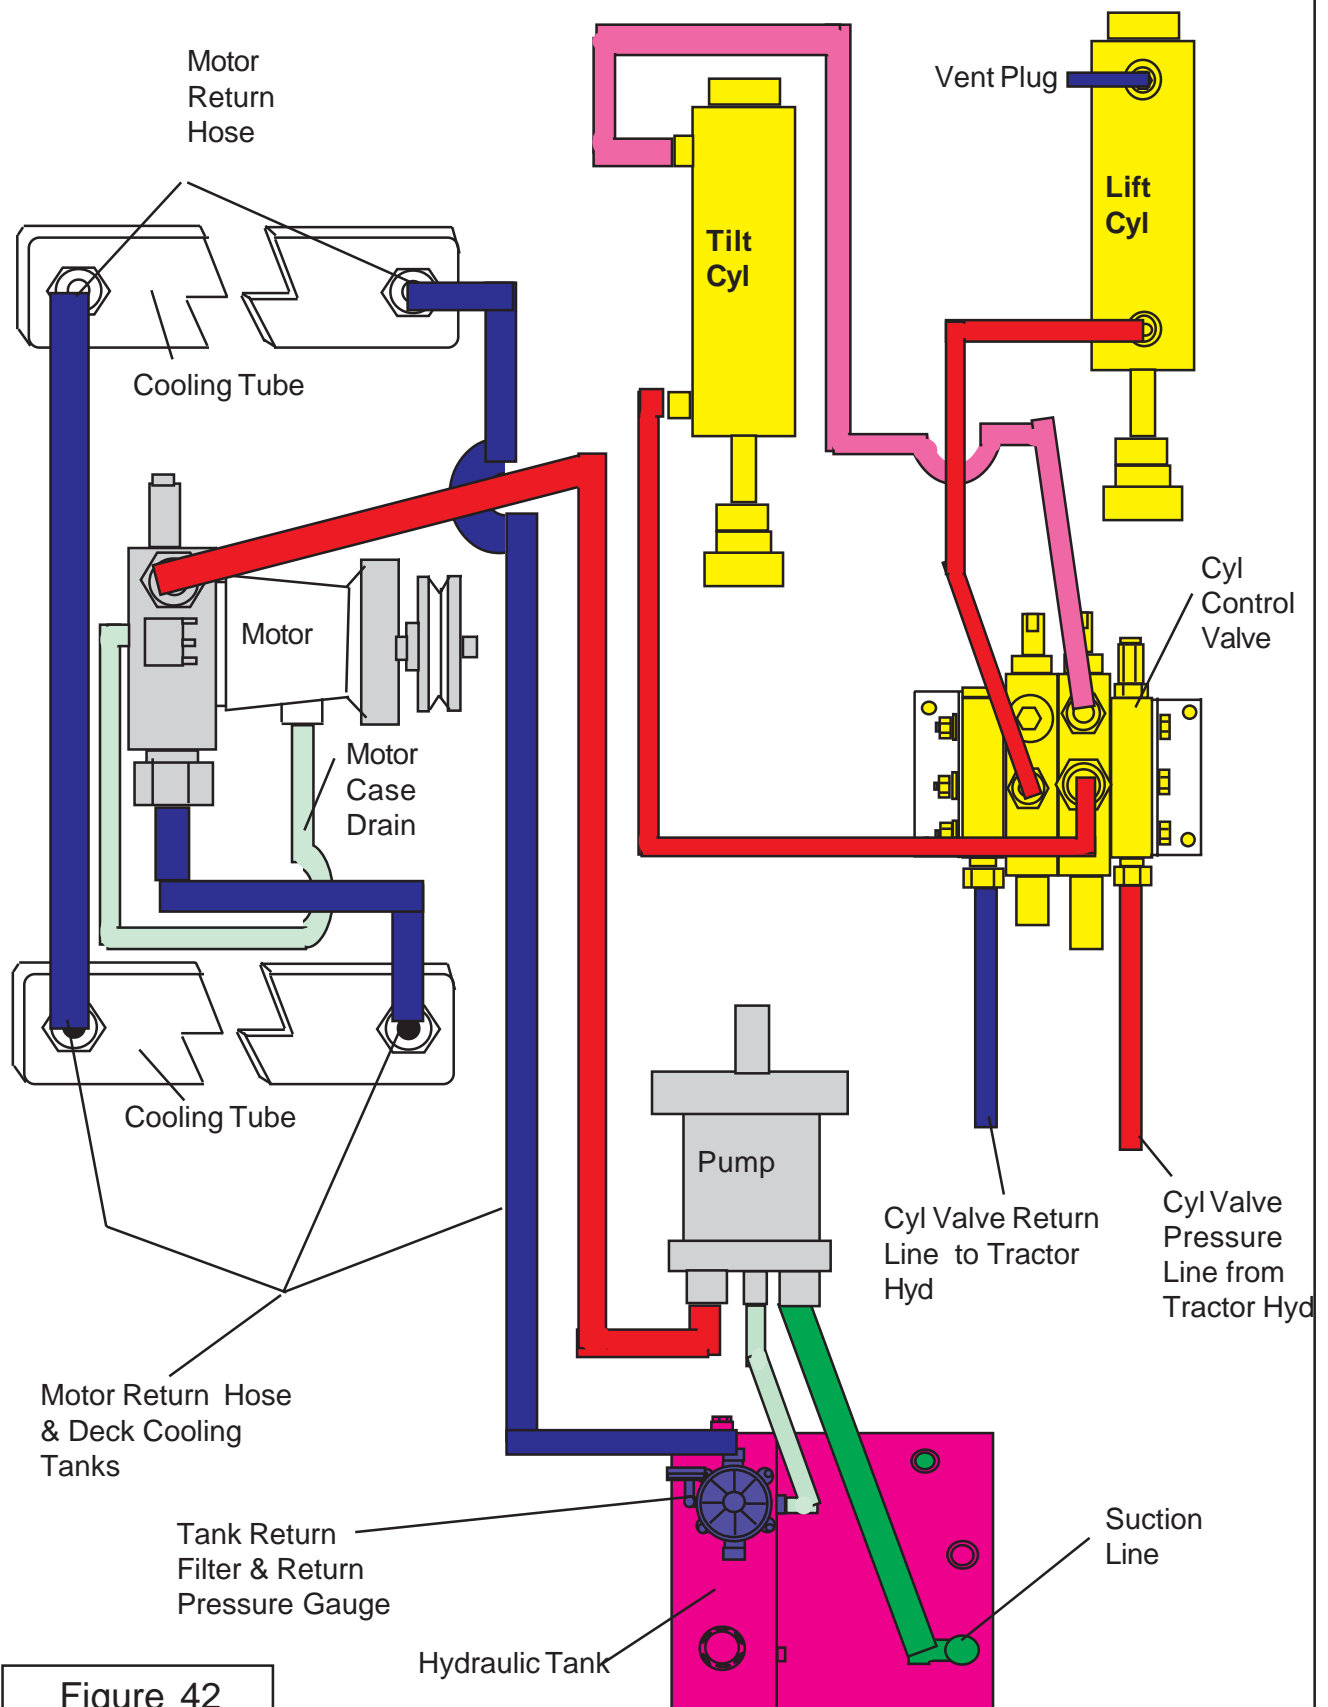

Figure 42
- B. Figure 42 Hyd Schematic Dual Pump for Dual Wing with Auxiliary hydraulic pump for cylinder control.